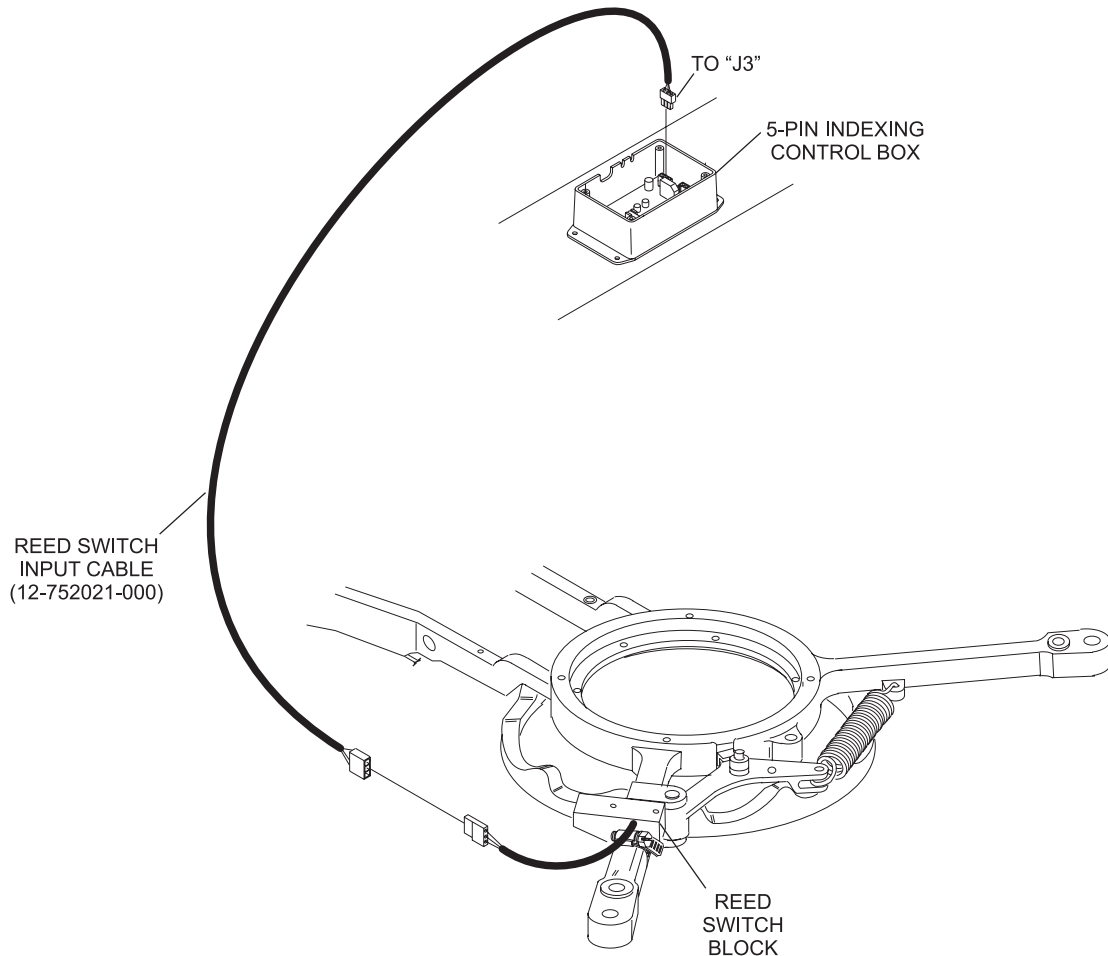

Figure 11
3. Connect the male 3 pin connector with locking tab into the female 3 pin connector on the Reed switch block. Some slack should be left in the cable to allow for turret movement during a jam. Refer to Figure 11.